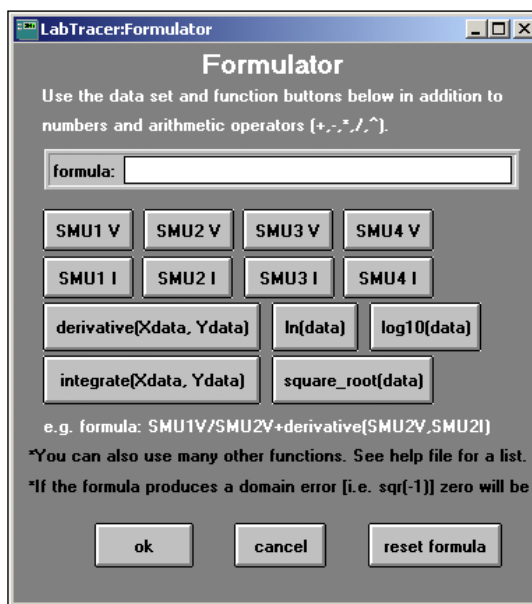

Figure 9. Formulator
7. If the formula data is activated (the light is turned on), then click the **formula** button to bring up the Formulator (Figure 9). From here, enter a formula using the TestPoint function calls. For more information on function calls, open the TESTPT.hlp file in the LabTracer Install pack. The math function section contains a complete list of functions. This formula is not checked for validity, so if the formula is incorrect, it may return incorrect data or cause errors like divide by zero during the test. Feel free to ignore any errors and continue the test because formula errors won't affect the collected data.